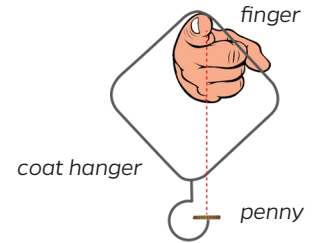

Figure 3
- b. Hang the coat hanger on your index finger so that the tip of the hanger’s hook is pointing upward towards your finger. If needed, adjust the bend of the hanger’s hook so the tip is pointing straight upward towards your finger (See Figure 3).